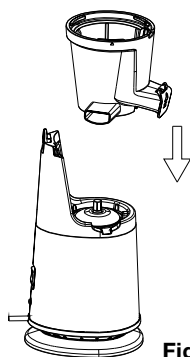
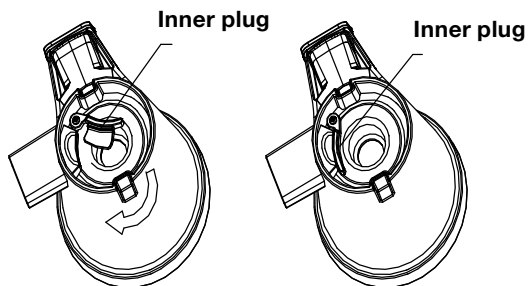

Fig. 1
Fig. 2
1. Before putting the jar in position, please check if the inner plug is placed in the residue outlet (see Fig.2). Place the jar downwards on the motor unit (see Fig.1).
6. To clean the residue outlet, pull the inner plug out of the outlet. This will make it easy to access the outlet with the cleaning brush (see Fig. 2).